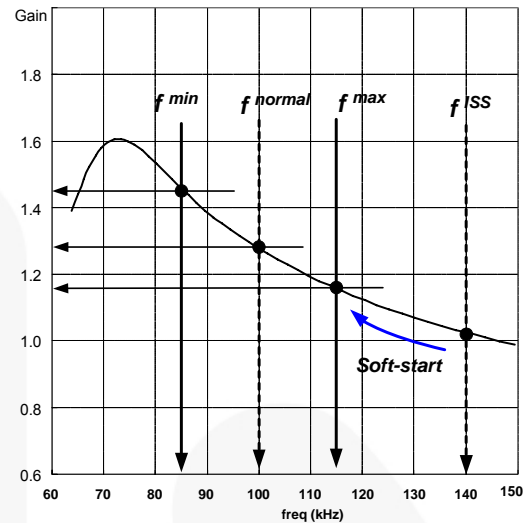
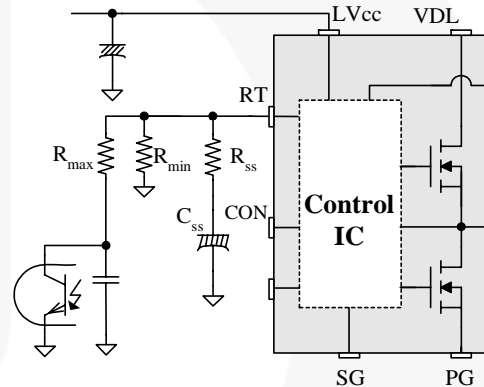

Figure 18. Resonant Converter Typical Gain Curve
Figure 19. Frequency Control Circuit
3. Frequency Setting: Figure 18 shows the typical voltage gain curve of a resonant converter, where the gain is inversely proportional to the switching frequency. The output voltage can be regulated by modulating the switching frequency. Figure 19 shows the typical circuit configuration for R_T pin, where the opto-coupler transistor is connected to the R_T pin to modulate the switching frequency.
To prevent excessive inrush current and overshoot of output voltage during start-up, increase the voltage gain of the resonant converter progressively. Since the voltage gain of the resonant converter is inversely proportional to the switching frequency, the soft-start is implemented by sweeping down the switching frequency from an initial high frequency (f_{ISS}) until the output voltage is established. The soft-start circuit is made by connecting R-C series network on the R_T pin, as shown in Figure 19. FSFR-series also has an internal soft-start for 3ms to reduce the current overshoot during the initial